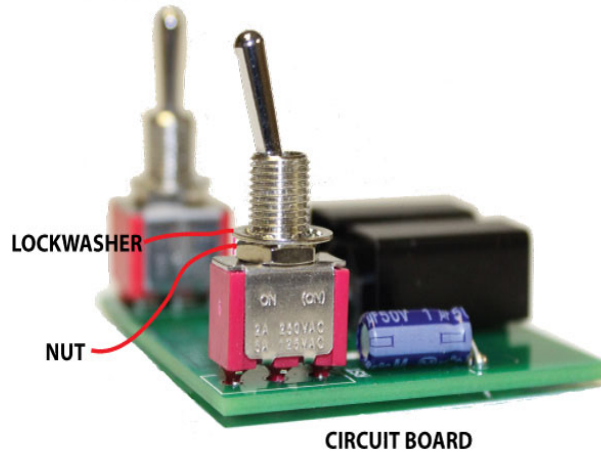

Fig 2
- 1) (fig 2) Install a nut onto each toggle switch. Rotate the nut all the way to the bottom of the switch.